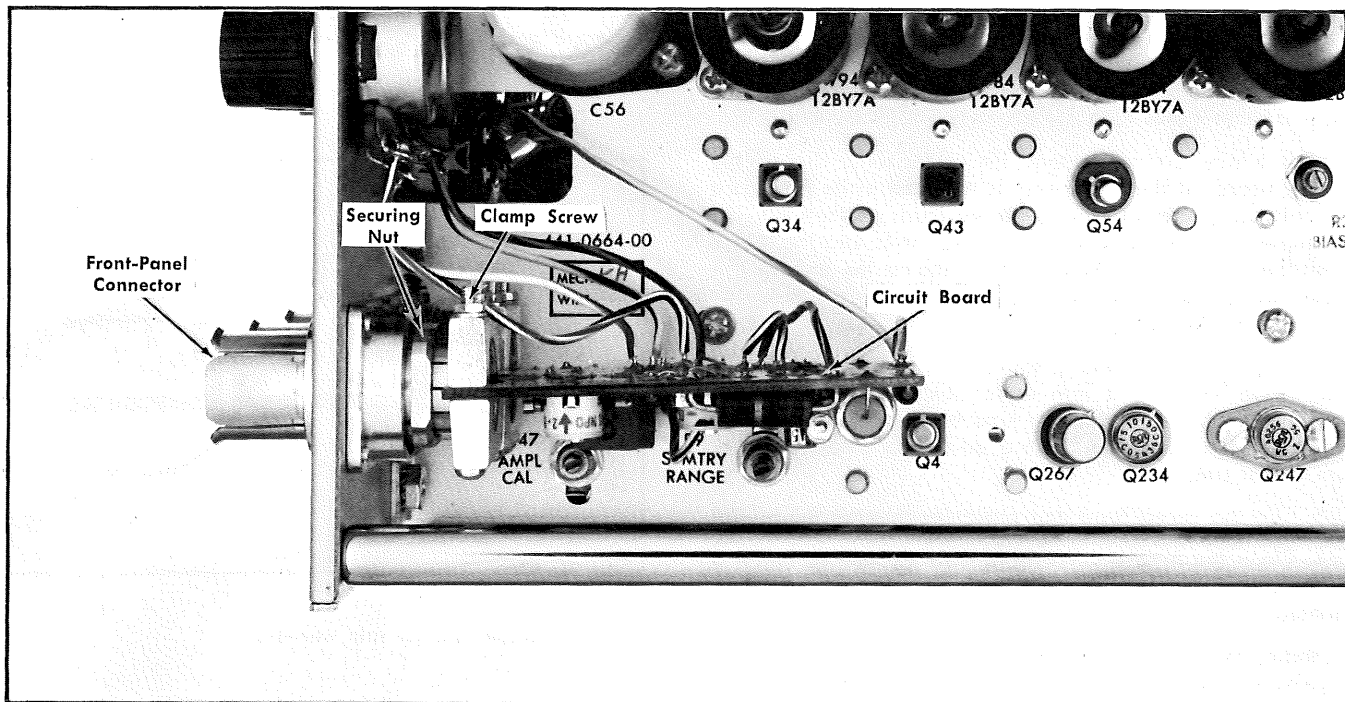

Fig. 4-3. Removing the + and - Output circuit board assemblies.
2. Remove the securing nut holding the connector and circuit board assembly to the front panel (see Fig. 4-3) and remove the assembly. Use a General Radio wrench designed for this purpose.
3. Loosen the two clamp screws (see Fig. 4-3).